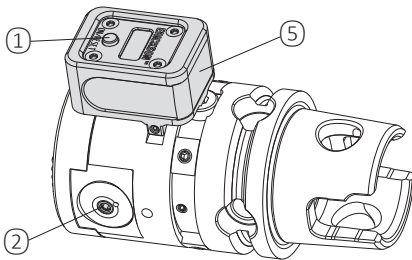
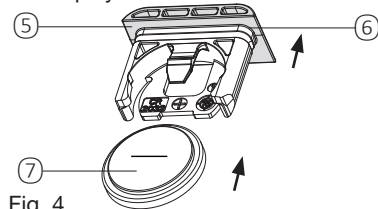

Fig. 2
Fig. 4
Battery change (Fig. 2, 4)
The integrated battery has a service life of approx. 5000 setting cycles. We recommend keeping spare batteries close to hand (Battery type VARTA Cr 2032). When the “Low battery” symbol appears on the display, the batteries will last for about another 50 setting cycles. If, when switching on, the display shows fault code E-99 and “Low battery” flashes on and off, the battery is spent and it has to be replaced. To replace, pull the battery compartment ⑤ (Fig. 2, 4) out of the display unit, remove old battery and dispose of properly. Insert new battery in correct way Fig. 4. Then slide battery compartment all the way back into the display unit.